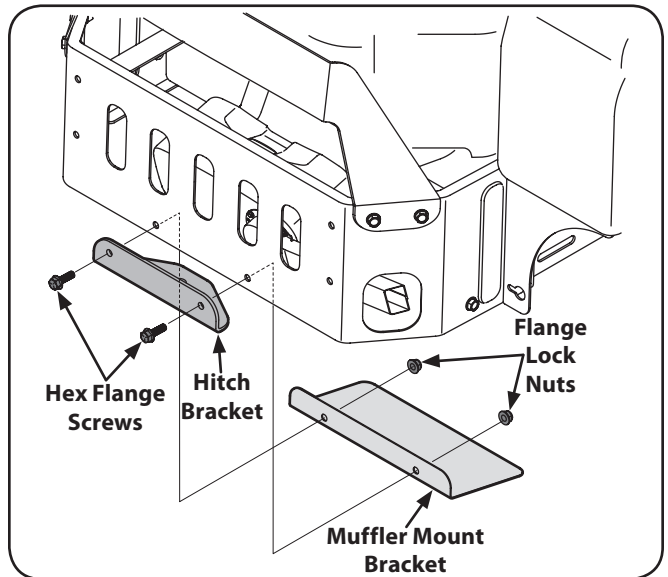

Figure 3-6
- Remove the hex flange screws and flange lock nuts that secure the hitch bracket and muffler mount bracket to the bumper bracket. See Figure 3-6.